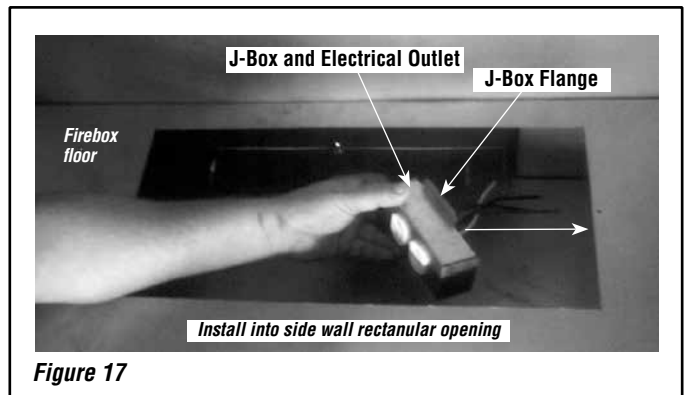

Figure 17
Step 2. Remove the rectangular knock-out (for J-Box) on the right side of unit (see **Figure 6** for location). Install the Junction Box and Electrical outlet below the firebox floor into the rectangular opening on the right side cabinet panel where you removed the knock-out (see **Figures 17 and 18**). The Junction Box / Electrical Kit is sold separately (see **Page 16** for ordering information).
- Squeeze the J-Box flanges together to fit into the opening shown in **Figures 17 and 18**.